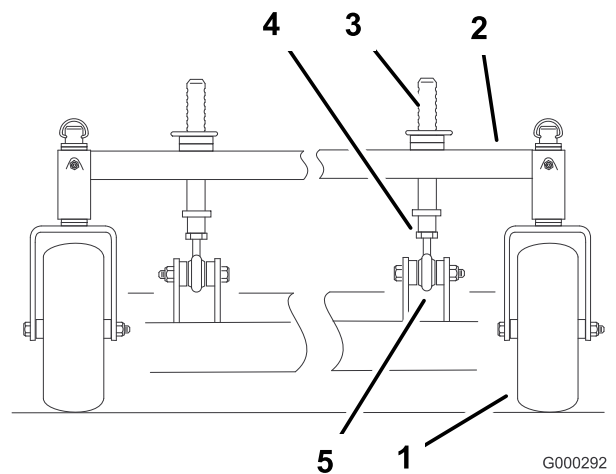

Figure 59
2. To raise the front of the deck, loosen jam nut and rotate the front pin clockwise (Figure 59).
3. To lower the front of the deck, loosen jam nut and rotate the front pin counter clockwise (Figure 59).
4. Position the blades front-to-rear. Measure at **C** and **D** locations (Figure 59) from a level surface to the cutting edge of the blades.
6. Tighten the jam nuts (Figure 59).
1. To change the front-to-rear pitch, the front height-of-cut posts can be adjusted (Figure 59).